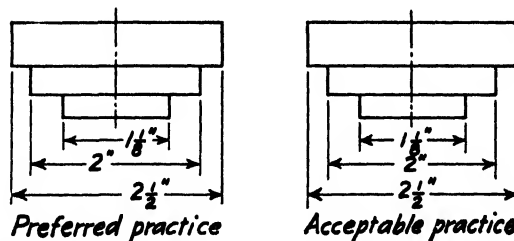

Fig. 2-9. Stagger the figures in parallel dimensions where it will make them easier to read.
9. Where you have several parallel dimensions, stagger the figures (do not place them all halfway between the arrowheads) in order to make them easier to read (see Fig. 2-9).